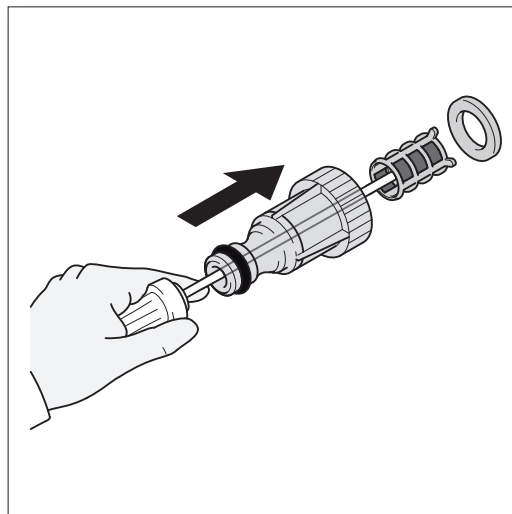

Fig. 21
- The screen inside the clear adapter should be cleaned periodically. Insert a pen or pencil in small hole at the end of the adapter. The screen filter will slide out (**Fig. 21**). Rinse it with clean water, and then place it back in the adapter.